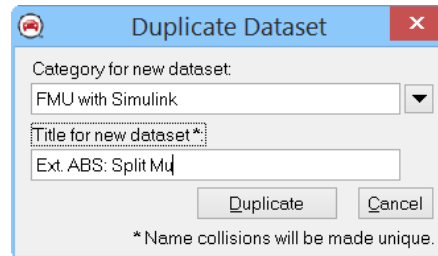

Figure 2. Duplicate the Simulink ABS Example dataset and rename it.
2. Duplicate the dataset using the **Duplicate** button or pressing Ctrl+N. You will be prompted to name the new dataset (Figure 2). For example, change the category to “FMU with Simulink” and the dataset title to “Ext. ABS: Split Mu”.